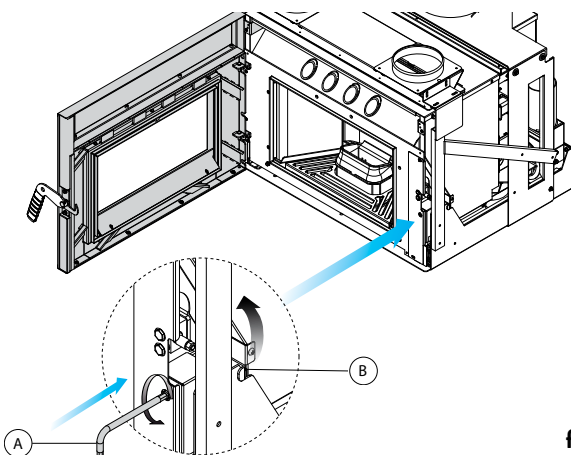

fig. 7.8
Open the door, insert Allen key (A) into the limiter's releasing socket; turn the closing lever counterclockwise, to position (B), in order to lock the rails into place (fig. 7.8).